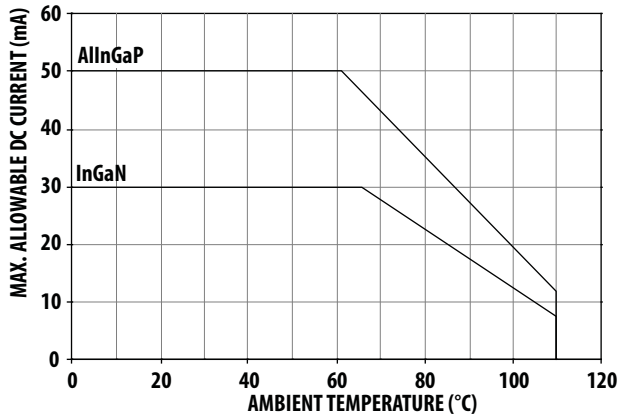
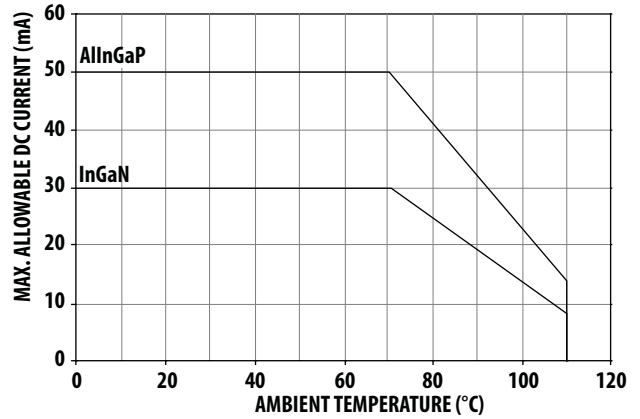

Figure 5a. Maximum forward current vs. ambient temperature. Derated based on  $T_{jMAX} = 125^{\circ}C$ . (3 chips)
Figure 5b. Maximum forward current vs. ambient temperature. Derated based on  $T_{jMAX} = 125^{\circ}C$ . (single chip)
1. Derate linearly as shown in Figure 5a & 5b.
4. Refer to Figure 5a and figure 5b for more information